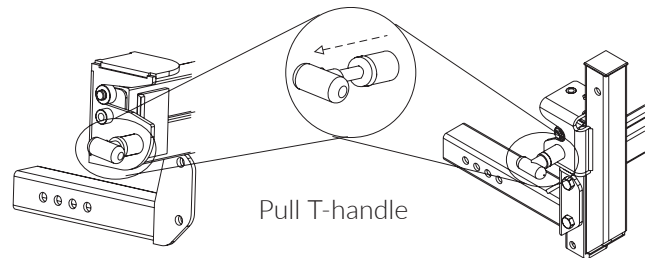
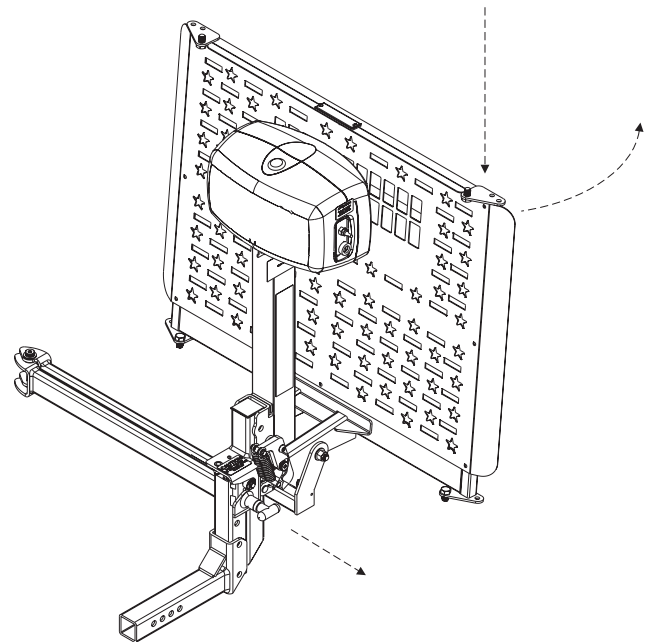

Figure 3-10
Figure 3-11
2. Pull the T-handle. See Figure 3-10. Grasp the lift firmly and swing it out, away from the vehicle. The Swing-Away opens up to 180 degrees from the closed position to allow full access to the vehicle's cargo area. See Figure 3-11.
NOTE: On the AL105L model you must push down on the lift to release the latching mechanism. See Figure 3-11.